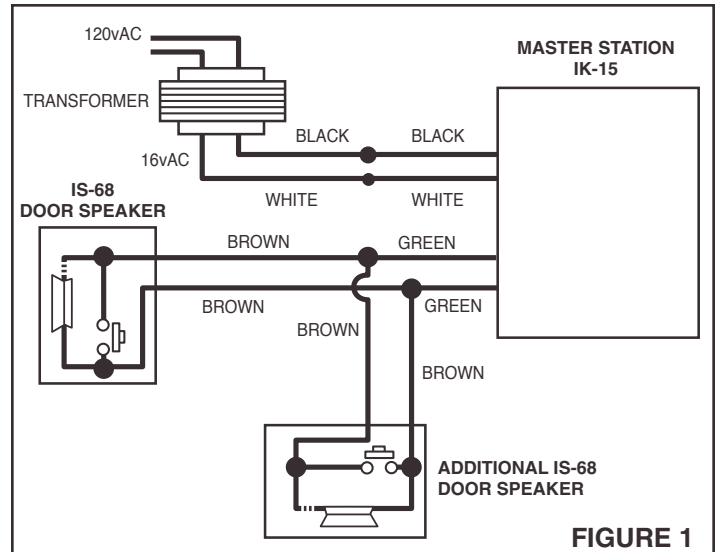

FIGURE 1
4. Wiring to IK-15 – Connect brown door speaker wires to existing connections of brown door speaker wires and green master speaker wires. See Figure 1.